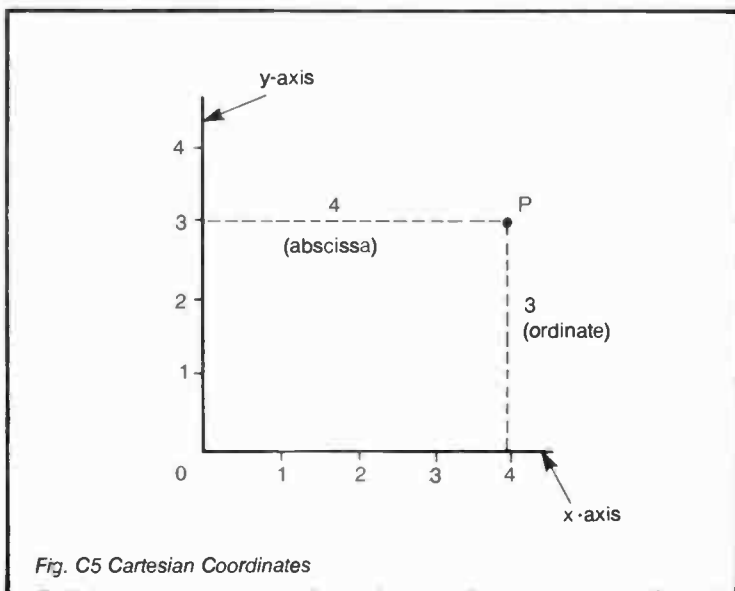

Fig. C5 Cartesian Coordinates
**CARTESIAN COORDINATE** It was first shown by Renée Descartes (a French mathematician) that any point in a plane can be defined relative to two axes by two numbers, now known as *cartesian coordinates*. In electronics the two axes are almost invariably at right angles as shown in Figure C5. In this figure it is shown